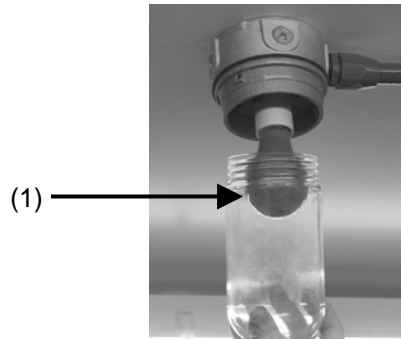

Figure 4-39. Blackout light globe removal.
2. Unscrew globe (1) and remove from socket adapter (Fig. 4-39).